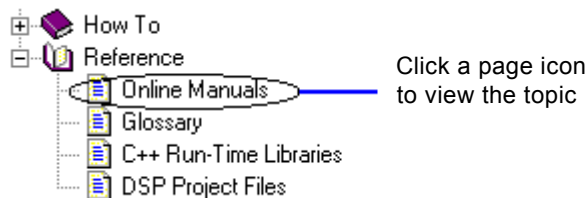

Figure A-25. Contents Page – Online Manual Topics
- **A topic name on the Contents page** (Figure A-25)